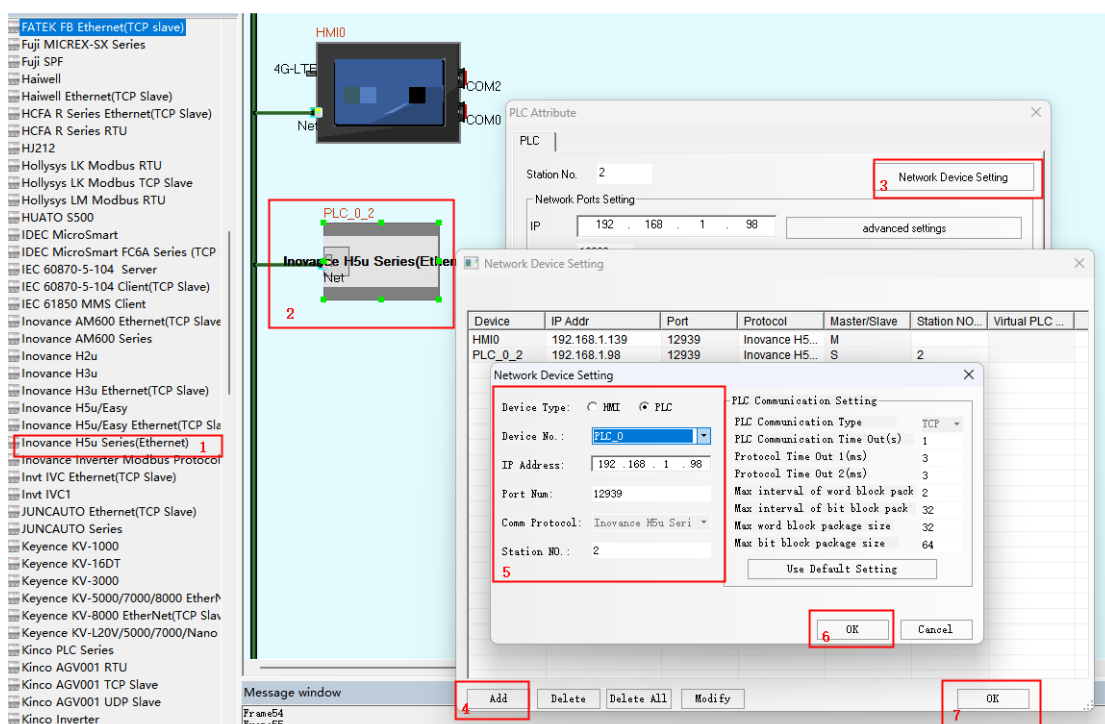

Figure 1
- (1) Click the PLC driver "Inovance H5u Series(Ethernet)" with the left mouse button and pull the driver into the right topology window (i.e., the blue screen on the right). If there is no HMI in the window and HMI needs to be added, the steps are the same as adding the PLC driver;
- (2) Double click HMI or right click HMI, pop-up window appears, left mouse button click "Properties";
- (3) Click "Network Device Configuration" to enter the network device configuration window;
- (4) Click "Add";
- (5) Set the IP address, port number, communication protocol and station number of HMI and PLC. The HMI IP address and PLC IP address must be in the same network segment (that is, the first three fields of the IP address have the same digits, but the last field has different digits), and the communication protocol must be Inovance H5u Series(Ethernet). If there are multiple HMI/ PLCs, change the device number (The default port number is 12939. Do not change the port number; otherwise, communication may fail).
- (6) Click "OK" to complete the steps of adding HMI and plc;
- (7) Click "OK" to complete the network equipment configuration, as shown in Figure 1, HMI and PLC